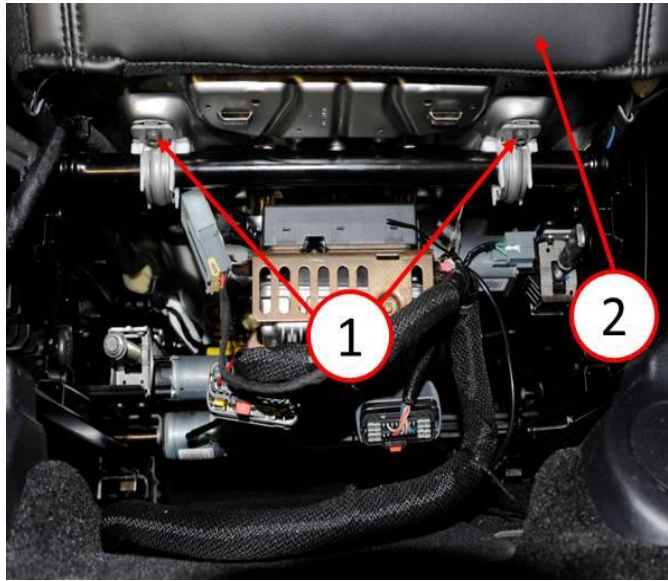

Fig. 3 Fasteners
5. From underneath the front of the seat remove both fasteners securing the front attachment isolator bushings to the seat pan (Fig. 3).